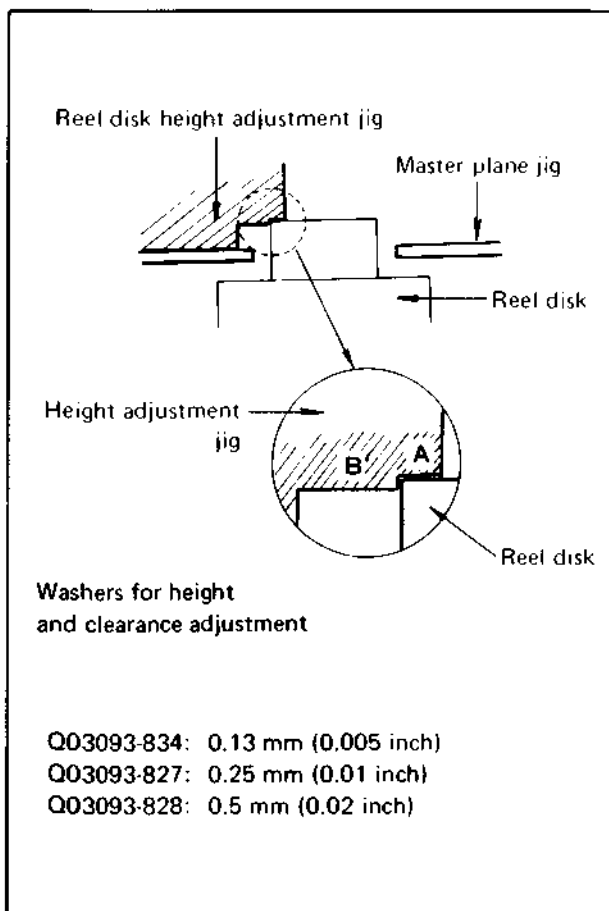

Fig. 4-9 Reel disk height adjustment
3. Place the height adjustment jig on the master plane jig, check that the reel disk height is lower than area "A" and higher than area "B" as shown in Fig. 4-9.
4. To adjust the height, add or remove one or more of the different thickness washers listed in Fig. 4-9.